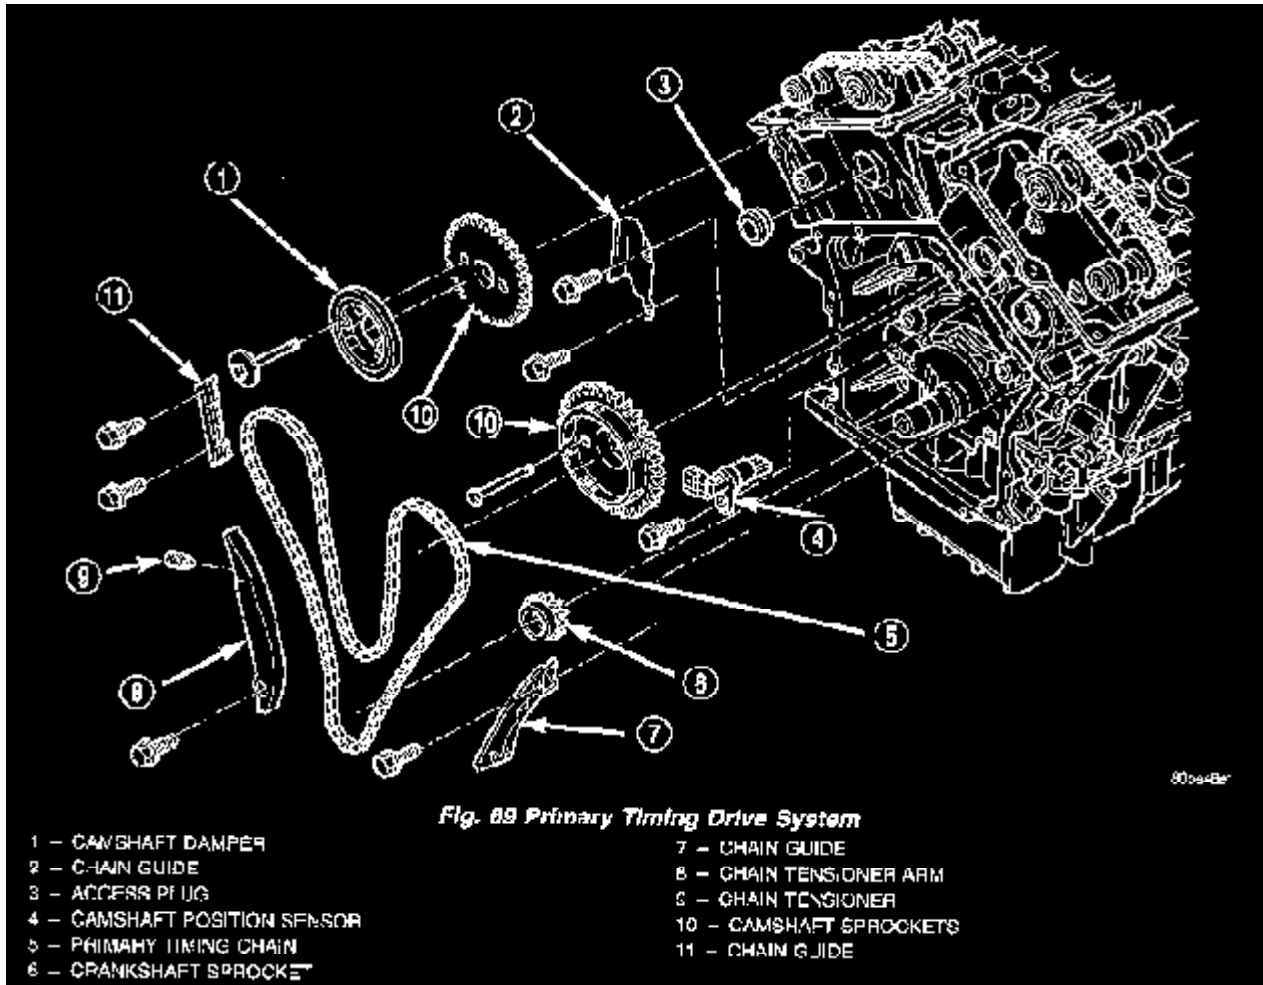

Fig. 69
5. Remove camshaft position sensor from left cylinder head (Fig. 69).
6. Remove chain guide access plug from left cylinder head (Fig. 69).
7. Starting with the right camshaft sprocket, remove the sprocket attaching bolts. Remove camshaft damper and sprocket (Fig. 69).
8. Remove left side camshaft sprocket attaching bolts and remove sprocket (Fig. 69).
9. Remove lower chain guide and tensioner arm (Fig. 69).
2. If removed, install right and left side short chain guides (Fig. 69). Tighten attaching bolts to **28 Nm (250 in. lbs.)**.
11. Install left side lower chain guide and tensioner arm (Fig. 69). Tighten attaching bolts to **28 Nm (250 in. lbs.)**.
12. Install chain guide access plug to left side cylinder head (Fig. 69). Tighten plug to **20 Nm (15 ft. lbs.)**.